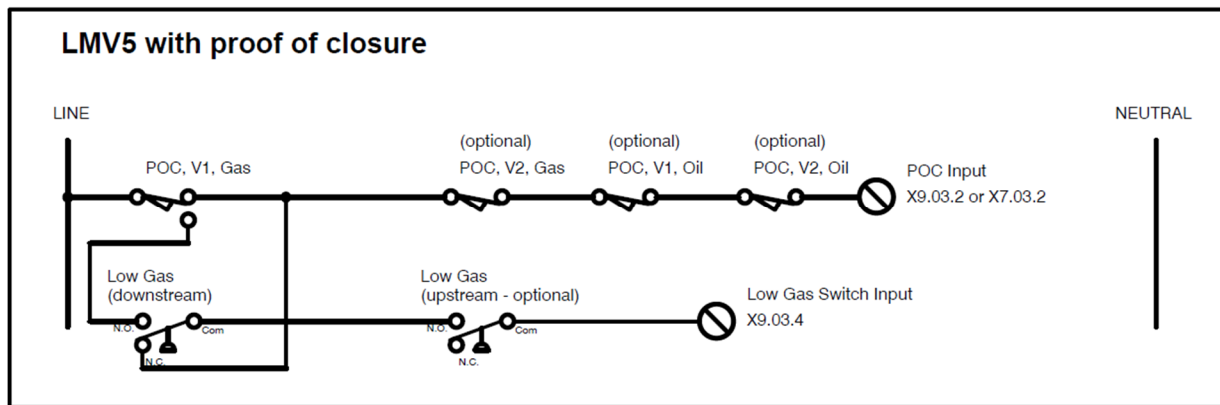

Figure 12: Option 1 with Proof of Closure Electrical Schematic
1. The LMV5 is in standby. All valves are closed, and all switches are as shown in the electrical schematic (Figure 12). The proof of closure (POC) switches are made which supplies power to the LMV5 POC input. The downstream LGPS is open. The upstream LGPS (optional) will be closed.